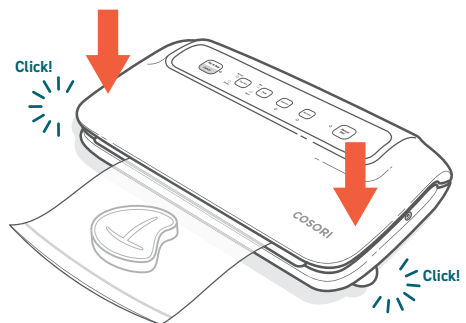

Figure 2.3
4. Close the lid. Press down on both corners of the lid to lock. [Figure 2.3] You should hear a click from each corner.